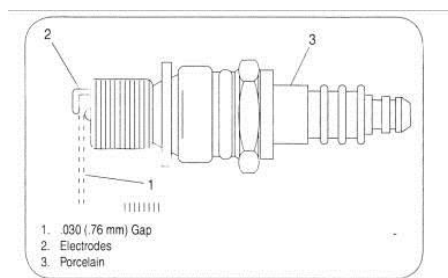

Figure 26
4. Check electrode gap with a feeler gauge and set gap to .030(0.76mm) if necessary. see Figure 26